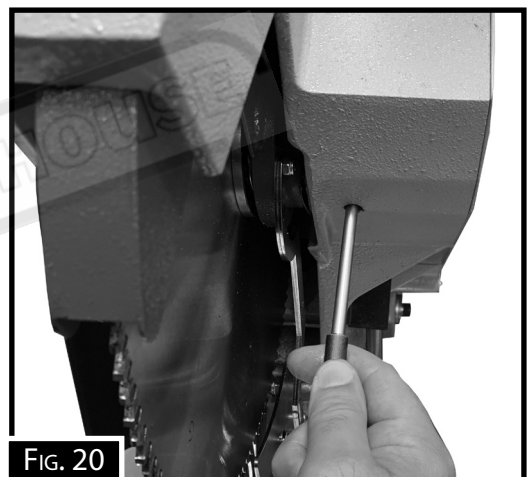

FIG. 20
4. Place a 6 mm wrench inside the center hole (Fig.20) of the belt guard to stop the shaft from moving. At the same time, place an 8mm hex key in the set screw (S in Fig 21) and loosen the screw